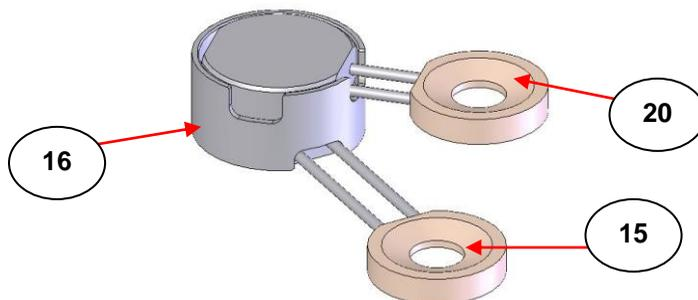

Fig 7. Completed Construction of Mini-Film Maker Assembly (3)
Finally, carefully place the top film platen assembly (20) over the foil/sample/foil “sandwich” and locate the top film platen (20) into the shield (16). You should have a construction of parts as seen in Fig 7.